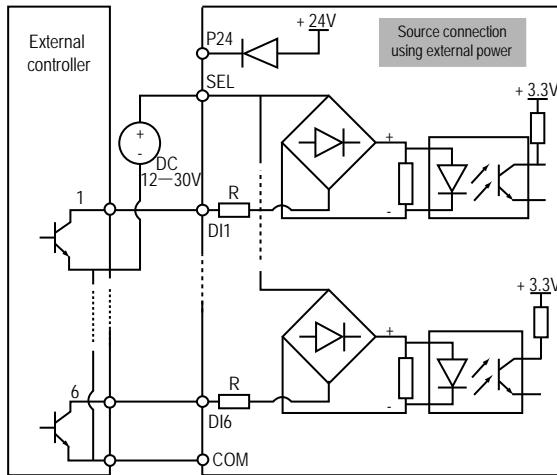

Figure 4-9 Source input connection when using external power supply
1. If the external power supply is used, the source connection is as shown in Figure 4-9. (Note that the SEL and the P24 are not short-circuited)